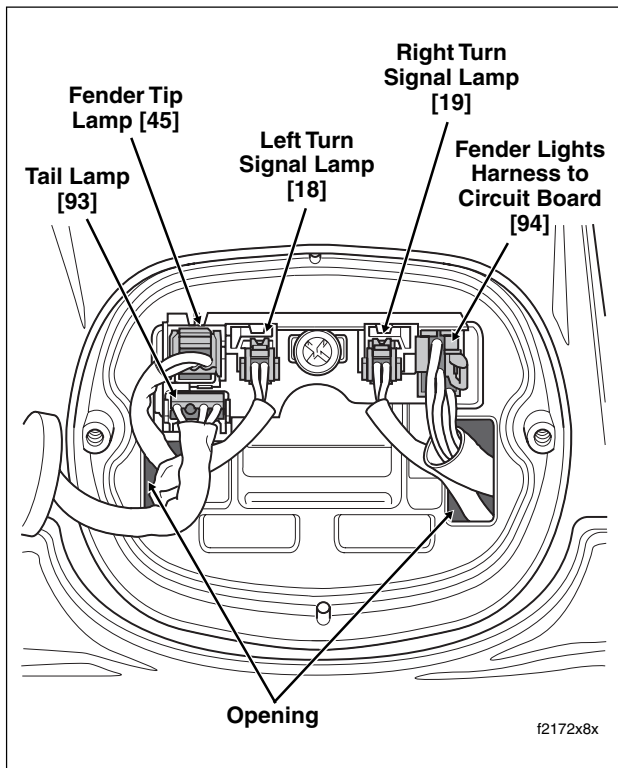

Figure 8-39. Rear Fender Lights Assembly
3. Depress buttons to remove four remaining Multilock sockets from pin housing. See Figure 8-39.
6. Feed Multilock sockets through openings to inboard side of bracket. See Figure 8-39. For best results, free the smaller sockets first.
1. Feed Multilock sockets through openings to outboard side of chrome plastic bracket. See Figure 8-39. For best results, feed the larger sockets first.